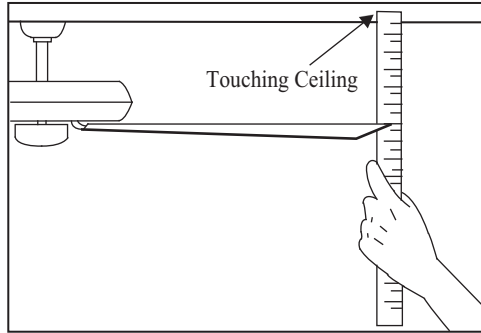

Figure 16
- Select a point on the ceiling above the tip of one of the blades, then select any fan blade and measure from the center of the selected blade to the point on the ceiling (as shown in Figure 16). Rotate the fan until the next blade is positioned and repeat the measurement using the same point from the ceiling for every blade. Measurement deviations should be within $1/8''$.